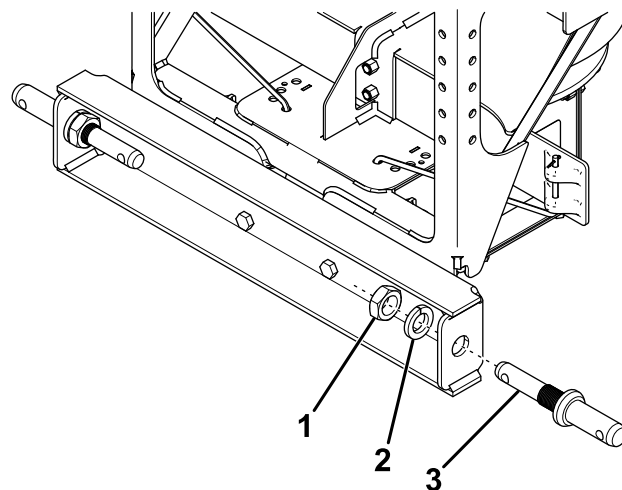

Figure 2
2. Insert the lift pins into the lower weldment and secure them using 2 split washers and nuts (1 inch) as shown in Figure 2.